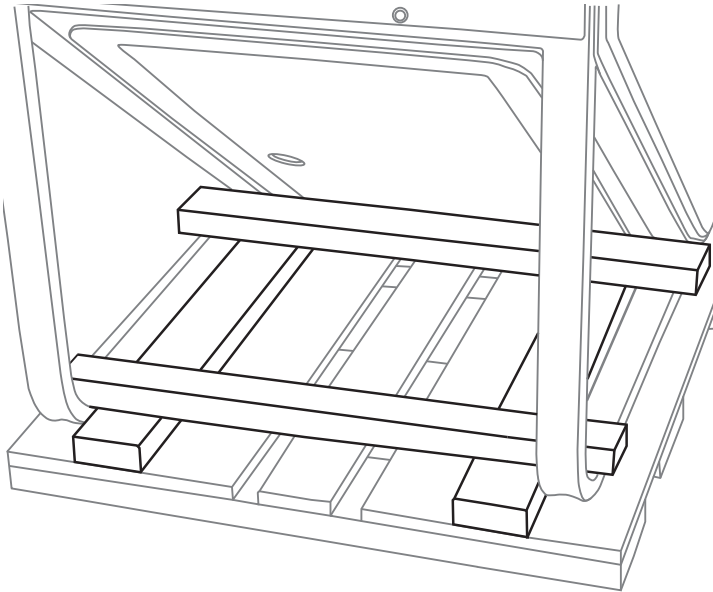

Figure 1
**1-2** With a hammer or pry bar, remove the wood securing the back of the machine to the pallet (see Figure 1).